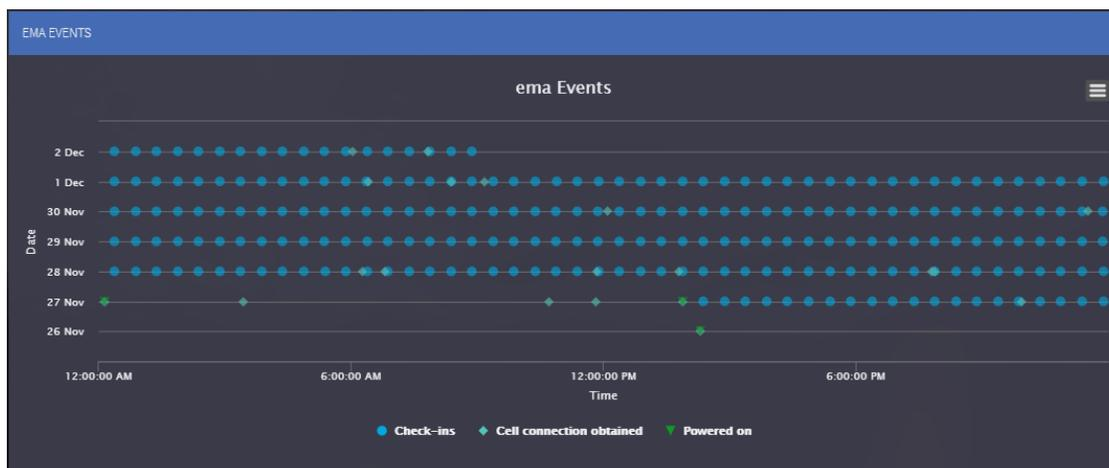

Figure 12
- The "EMA EVENTS" section can be used to closely monitor ema's behavior over time. Reference *Figure 12*.